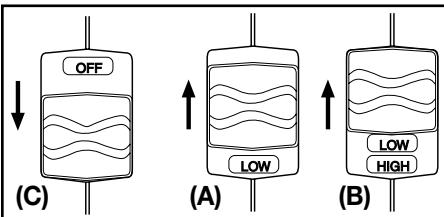

Fig. 15
This unit is equipped with an OFF/LOW/HIGH switch (Fig. 15). For low speed operation, slide the switch up to the first click (A).